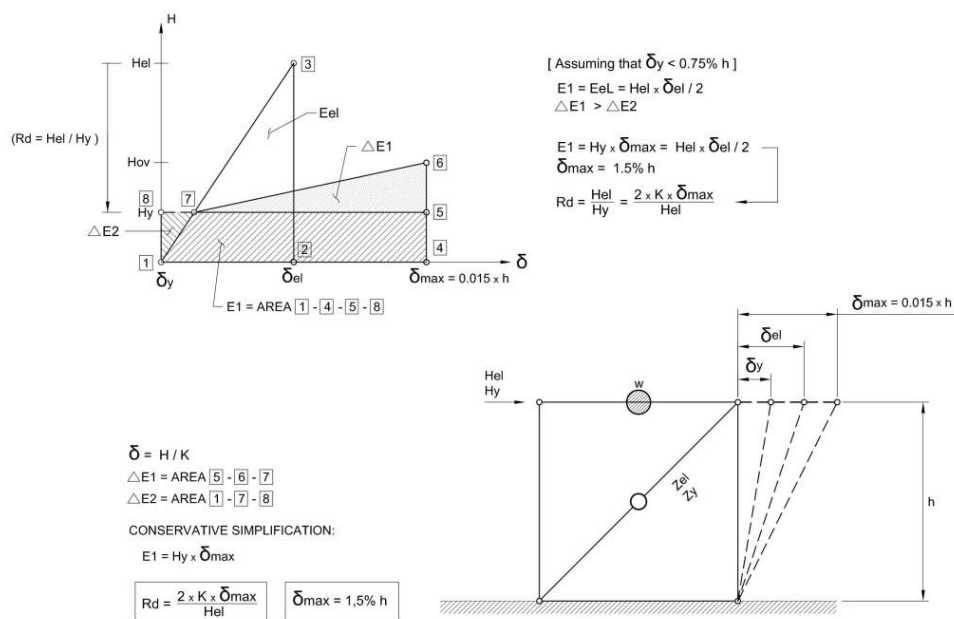

Figure 6
- An energy criterion will be used to establish the ductility factor R_d as shown in Figure 6. Test results have verified that diagonal tension-only bracing with a central ring can reach a post-elastic drift limit of at least 1.5 %. In addition, it was also evident that the system overstrength factor is higher than the F_u / F_y ratio. The overstrength area $\Delta E1$ is larger than the area $\Delta E2$ for $\delta_y < 0.0075 h$, and is used to compensate for the $\Delta E2$ area, and allow for simplification of the formula for E1 shown in Figure 6.